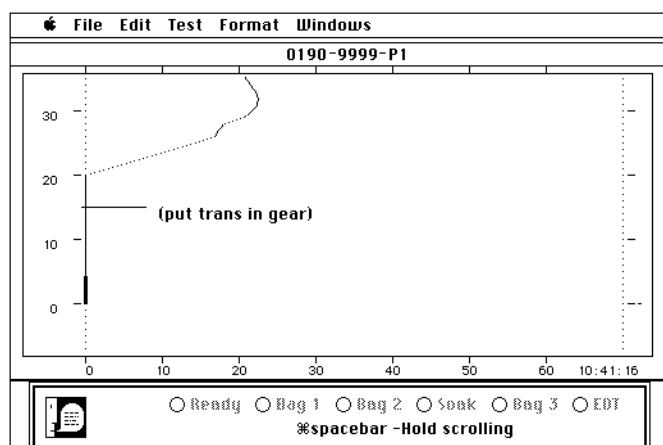

Figure 3
- 306 Operate the vehicle for one Urban Dynamometer Driving Schedule (UDDS). See Figure 3. See Attachment E, “UDDS Preconditioning Specifications” for a list of driving techniques to be followed during the vehicle preconditioning.